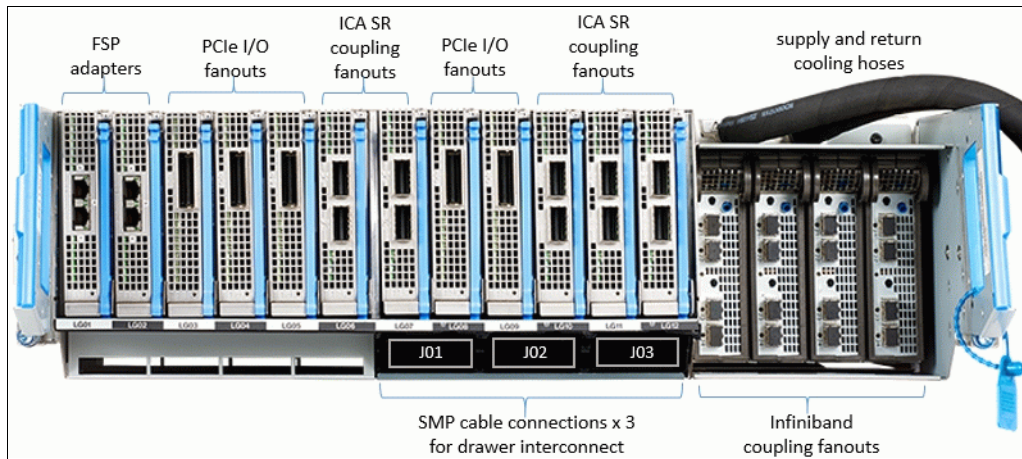

Figure 2-7 Fully populated processor drawer
Figure 2-7 shows the front view of a fully populated processor drawer. Redundant FSP adapters (2) always are installed, and PCIe I/O fanouts are plugged in specific slots for best performance and availability. SMP interconnect cables are present when multiple drawers are present. Also present are the ICA SR and InfiniBand fanouts for coupling connectivity.